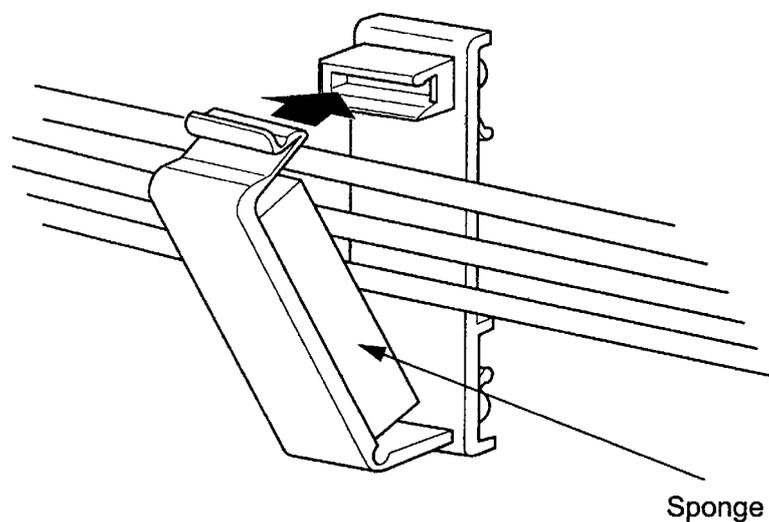

Figure 4-6 Attaching the Sponge to the Clamp
2. Attach the sponge (provided) to the inner surface of the clamp lining and close the clamp over the cables as shown in *Figure 4-6 Attaching the Sponge to the Clamp*.